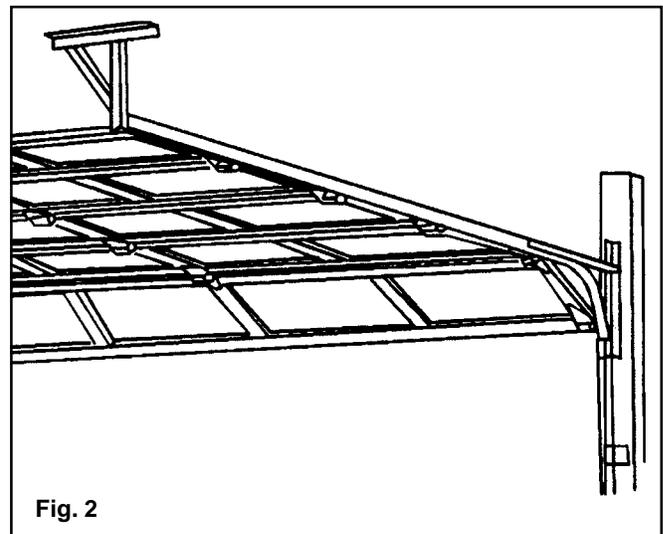

Fig. 2
**Step 1b:** Detach the cable at both ends. Disassemble and remove the springs and cable completely from the door. (FIG. 2)